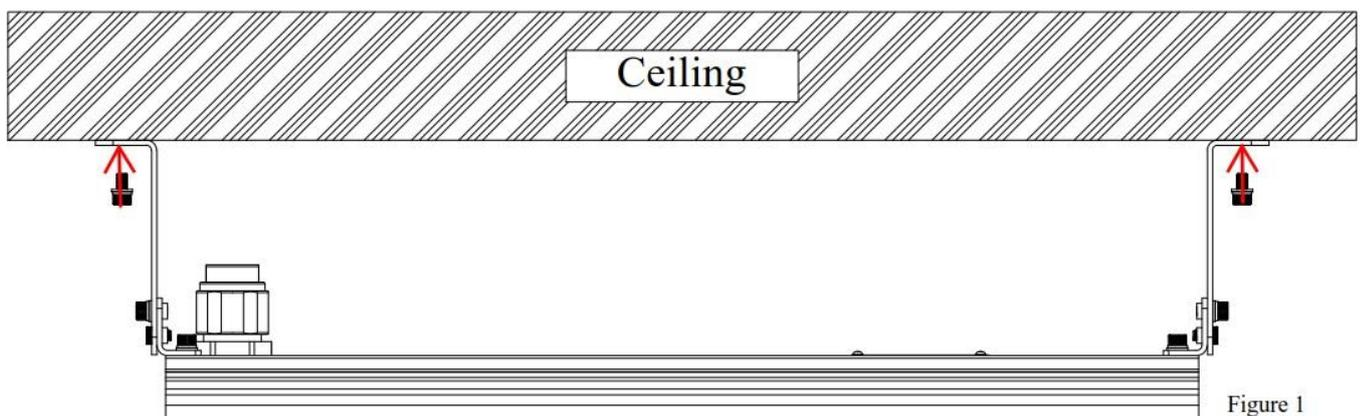

Figure 1
- ☞ The mount bracket is for surface mounting to ceiling (Figure 1) and wall (Figure 2).